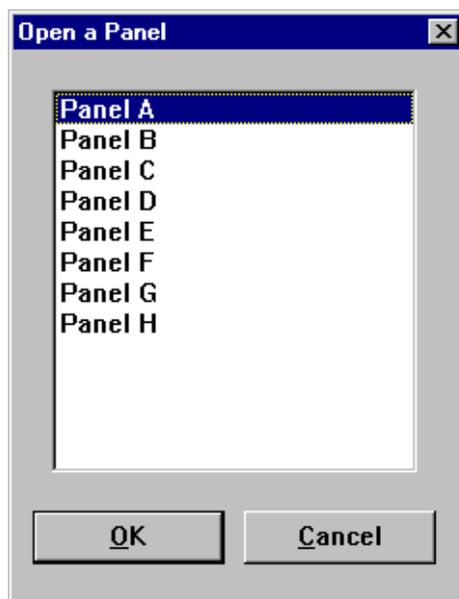

Figure 86. Open Panel dialog box
1. Choose **Window | Open Panel**. The Open a Panel dialog box appears (Figure 86).